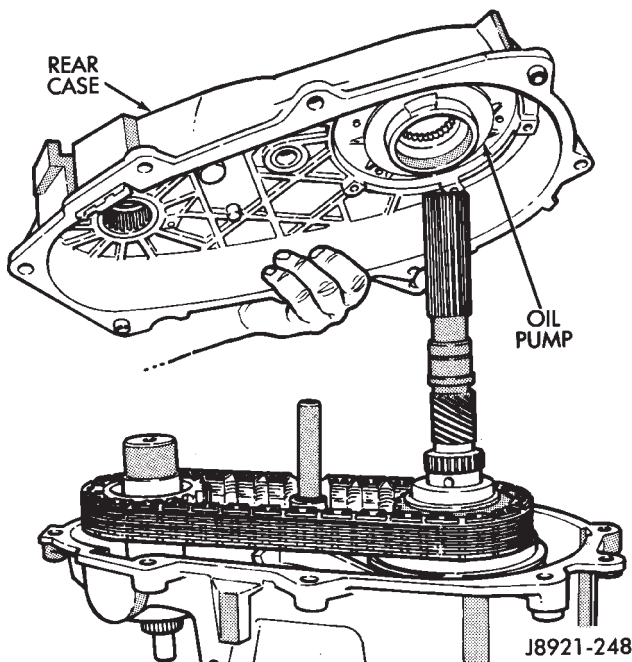

Fig. 6 Removing Rear Case And Oil Pump
- (12) Remove rear case and oil pump as assembly (Fig. 6).